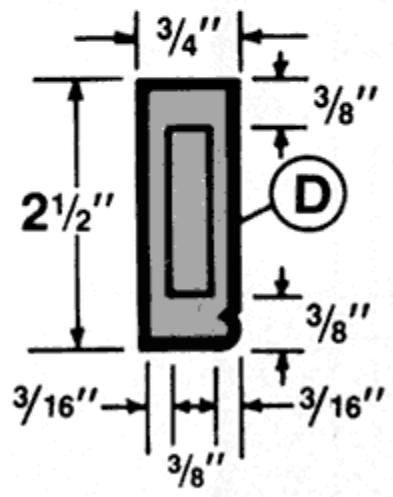

Figure 4A
13: Once again, using your router with a special beading bit, cut the bead and bevel designs on the Bottom Ends (D), Top Ends (E), Facings (G) and both surfaces of the Bottom Rail (F). Refer to **Figures 4A, 5A, 6A and 7A.**